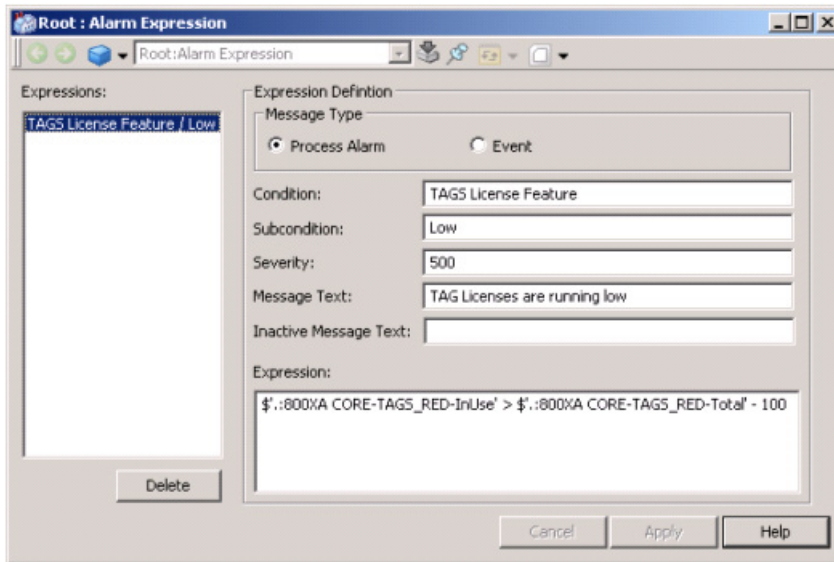

Figure 3. Alarm Expression Aspect
5. Select the newly created Alarm Expression aspect in the Aspect List area to produce the view in the Preview Area like the one shown in Figure 3.